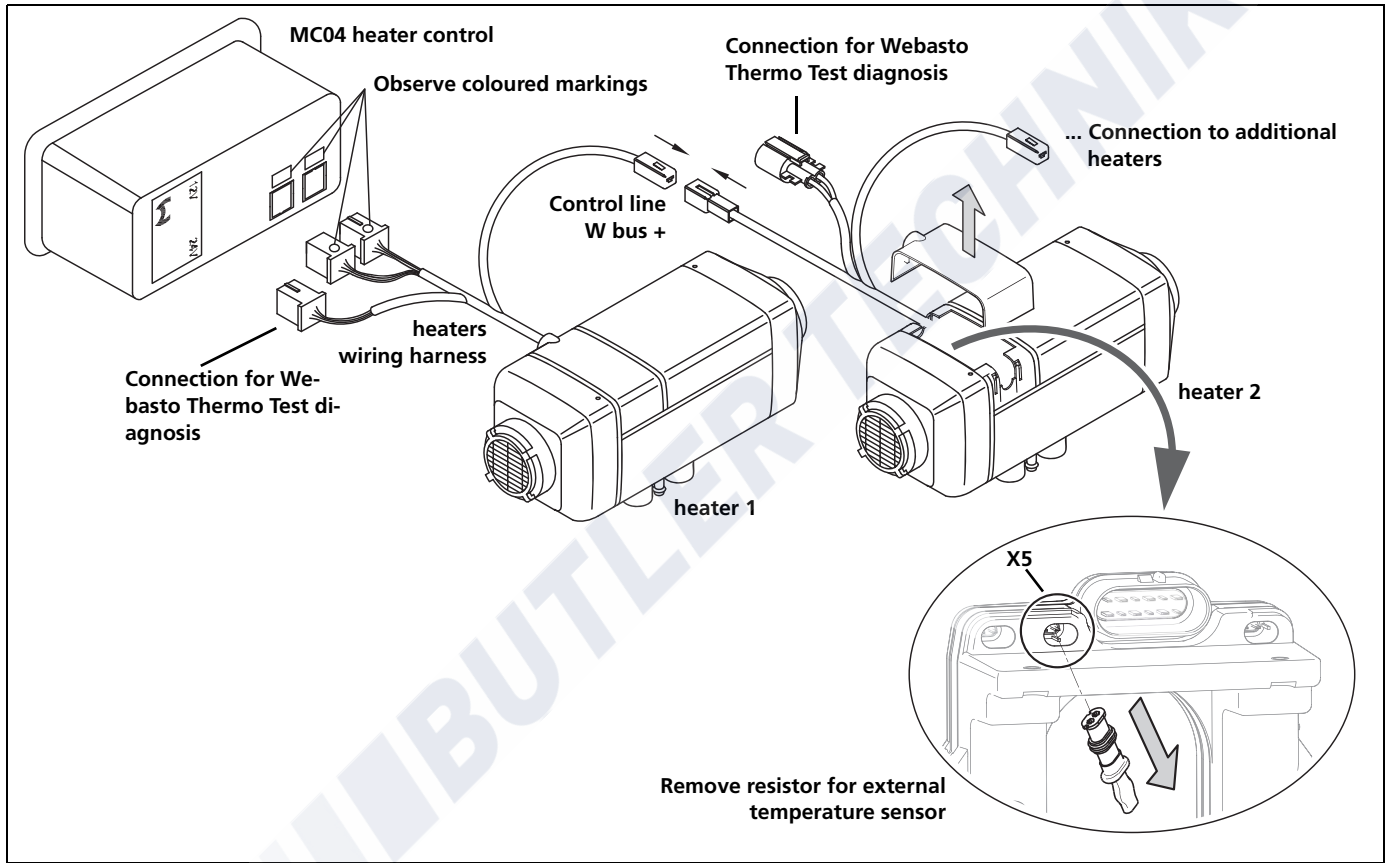

Fig. 33 Connection diagram for Air Top Evo 3900/5500 as system (connection of combination timer 1531 and setpoint generator is also possible)
2. The resistor R1 (Fig. 33) must be removed on all slave heaters